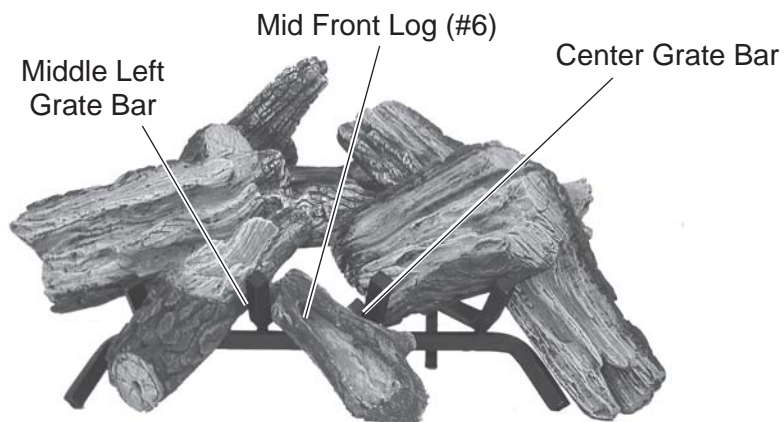

Figure 128 - Placing Mid Front Log (#6) on Grate Between Center and Middle Left Grate Bars.
7. Place Mid Front Log #6 on grate between center and middle left grate bars. Fit notch on back of log on the cross grate bar. *See Figure 128.*